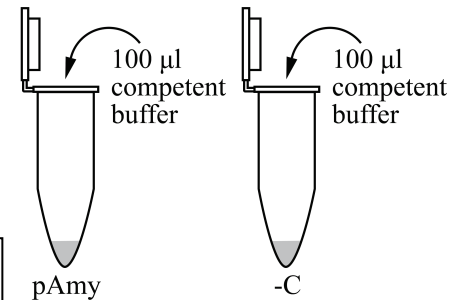

Fig. 8
5. Using a P200 micropipette and sterile tips*, add 100 μ l ice-cold competent buffer** to each pellet as a wash (Fig. 8). Gently pipette up and down a few times to suspend the pellet completely. Proceed to step 6 quickly.
7. Using a P200 micropipette and sterile tips[#], add 100 μ l ice-cold competent buffer to each pellet (Fig. 8). Gently pipette up and down a few times to suspend the pellet completely.